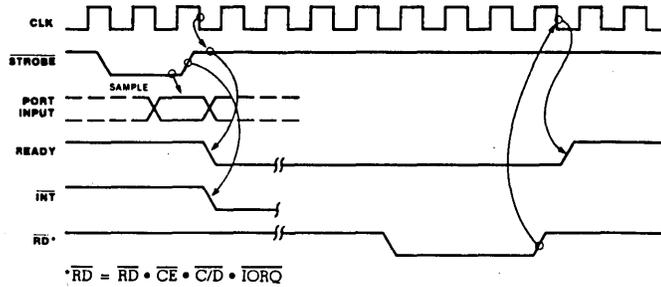

Figure 15. Mode 1 Input Timing
**Input Mode (Mode 1).** When  $\overline{\text{STROBE}}$  goes Low, data is loaded into the selected port input register (Figure 15). The next rising edge of strobe activates  $\overline{\text{INT}}$ , if Interrupt Enable is set and this is the highest-priority requesting device. The following falling edge of  $\text{CLK}$  resets Ready to an inactive state, indicating